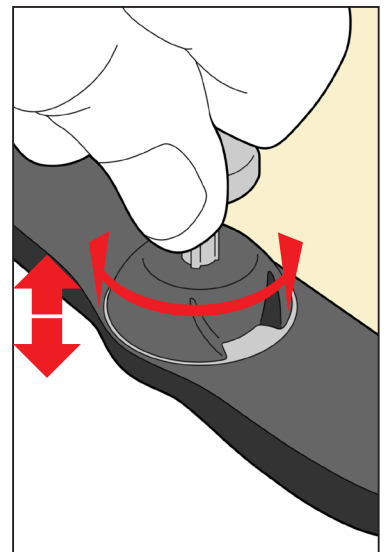

Fig. 7
1. Rotate each pin on anterior thermoplastic mask to the desired shim height; recommended 2 mm (markings are in 0.5 mm increments) (Fig. 7).